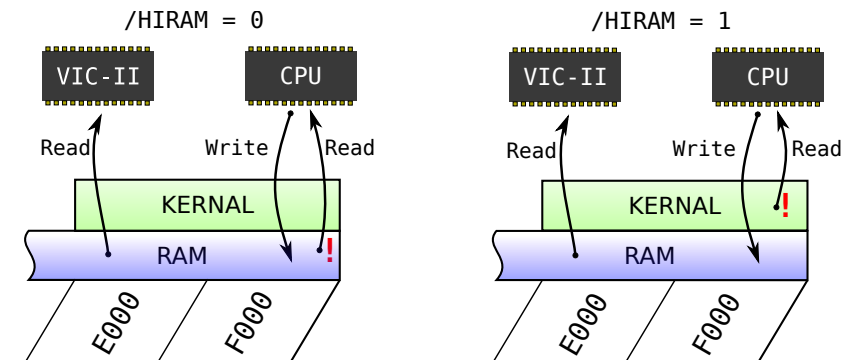

Figure 1.2: #HIRAM controls access to KERNAL memory space
#HIRAM is low (0), RAM is read. If it is high (1), KERNAL ROM is read. Figure 1.2 shows this mechanism.